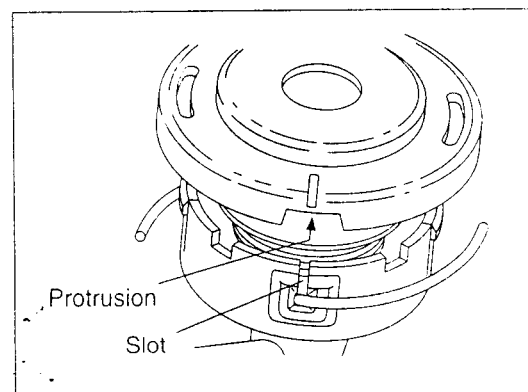

Fig. 49
7. Align the protrusions on the underside of the cover with the slots of the eyelets. Then push the cover firmly onto the housing to secure it (Fig. 49).